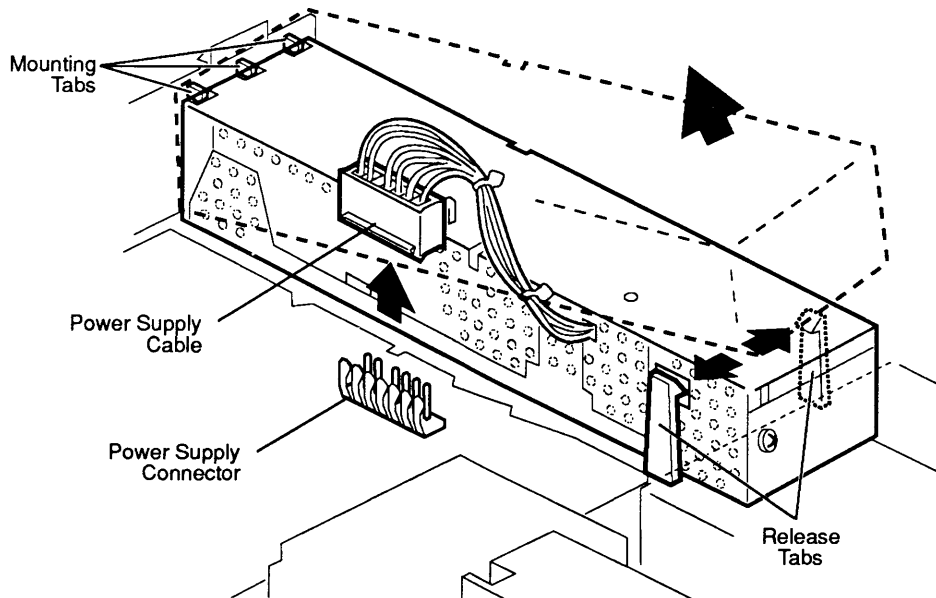

Figure 2-9 Removing and Installing the Power Supply
2. Disconnect the power supply cable from the power supply connector (**Figure 2-9**) on the logic board.
3. Release the two plastic tabs (**Figure 2-9**) that secure the front end of the power supply to the bottom case, and at the same time lift the power supply up and out of the case.
1. Slide the back end of the power supply over the three plastic mounting tabs (**Figure 2-9**) at the rear of the bottom case.
3. Connect the power supply cable to the power supply connector (**Figure 2-9**) on the logic board.